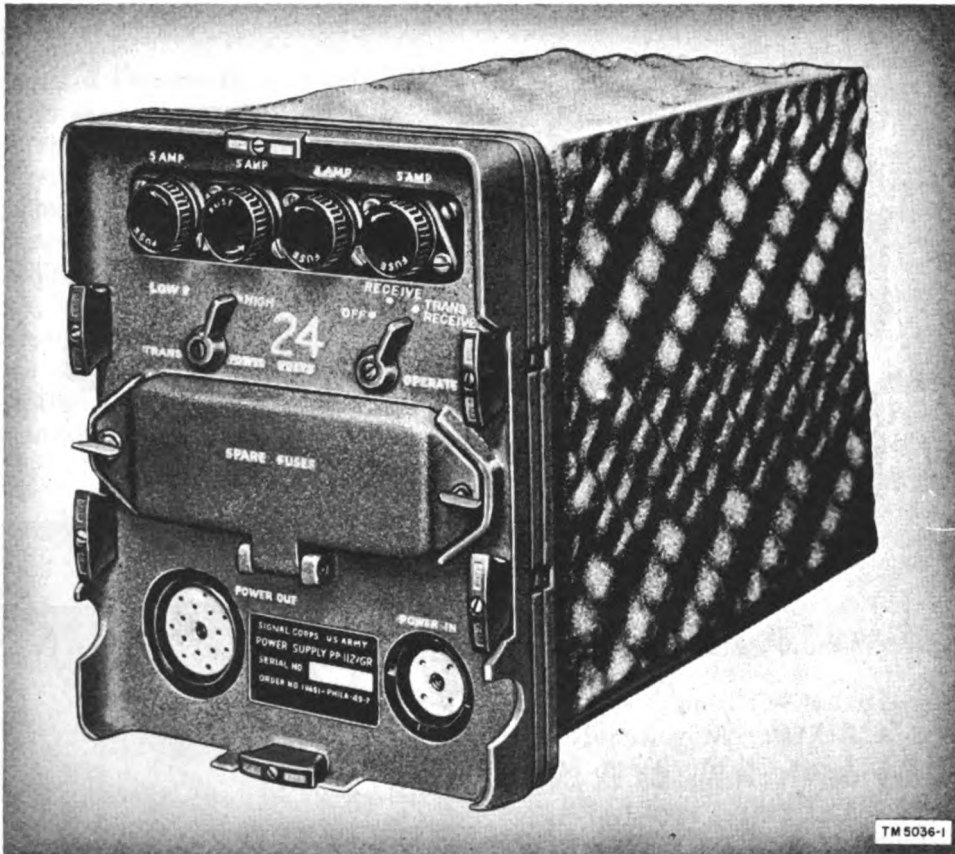

Figure 5. Power Supply PP-112/GR, front view.
a. Either Power Supply PP-109/GR or PP-112/GR is used to furnish operating plate and screen voltages for Set 1, depending on whether the vehicular storage battery supplies 12 or 24 volts, respectively. The two units are similar externally (fig. 5) and differ internally only in those circuits necessary to convert the battery voltage to the proper operating voltage for the receiver-transmitter. Detailed information on the power supplies is contained in a separate technical manual.
bias, filament, microphone, and relay potentials for the receiver-transmitter. The plate, screen, and bias voltages are developed by a vibrator type power supply circuit. Input battery voltage is supplied through a POWER IN receptacle on the front panel (fig. 5), and all output voltages are available at the POWER OUT receptacle on the front panel.